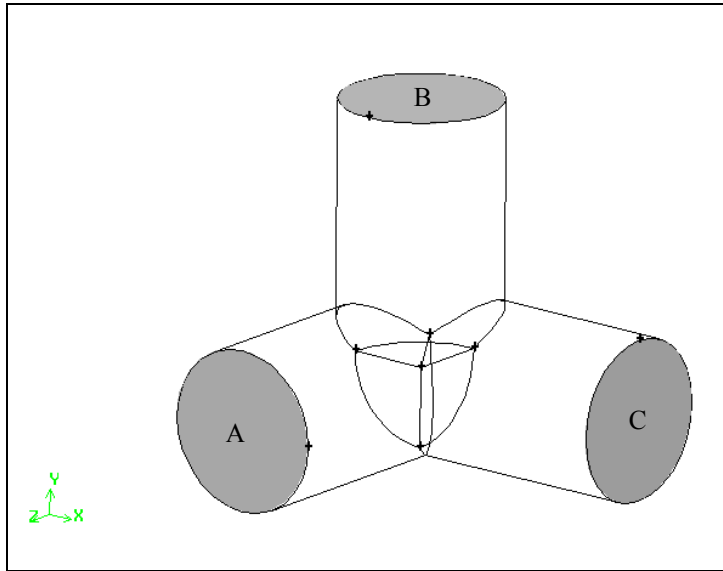

Figure 3-21: Boundary types for faces of the three-pipe intersection
- iv. *Shift*-left-click the end of one of the pipes (the face marked A in Figure 3-21) and click **Apply** to accept the selection.
- ii. Check that **ELEMENT_SIDE** is still selected in the **Type** option menu and *Shift*-left-click the end of one of the other pipes in the graphics window (the face marked B in Figure 3-21).
- iv. Set the **Type** for the end of the third pipe (the face marked C in Figure 3-21) to be **ELEMENT_SIDE**, using the **Name** `outflow3`.